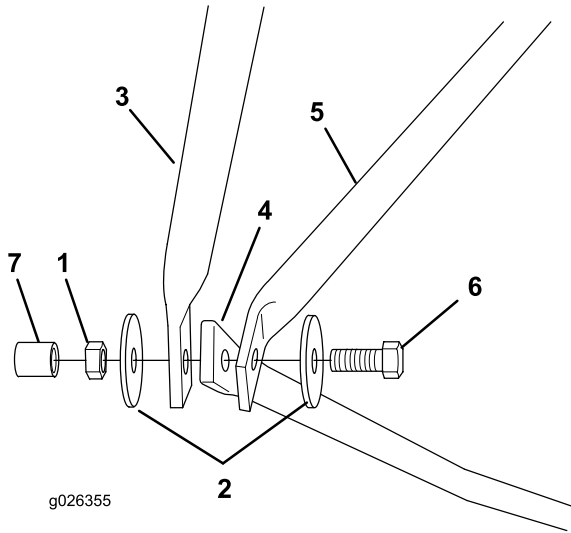

Figure 6
10. Position the rear frame with the top tabs facing forward and the bottom ends to the outside of the other frame ends (Figure 6).
12. Hold the rear frame upright and tighten the locknuts (Figure 6).
15. Tighten all fasteners securely and insert the end caps on the bolt ends that extend from the washers (Figure 6).